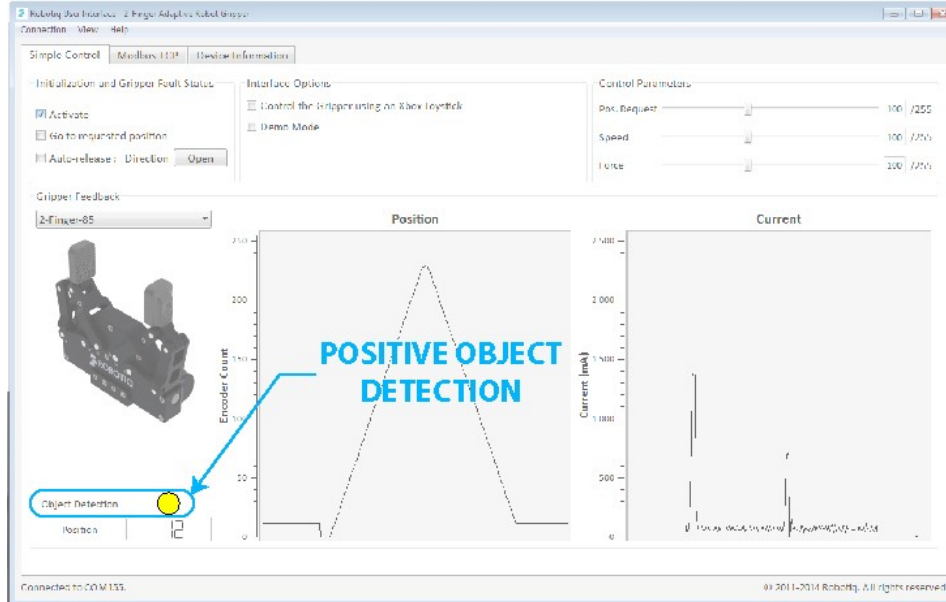

Figure 5.2.4.1 : Positive object detection is registered when the object detection dot turns yellow.
- **Object Detection:** If the Gripper detects contact with an object when closing, the "Object Detection" display turns yellow (Figure 5.2.4.1).
- **Position (numeric):** The digital display of "Position" shows the position of the fingers as designated on a scale of 0 to 255 (see Figure 5.2.4.2 and your Gripper Instruction Manual for details).